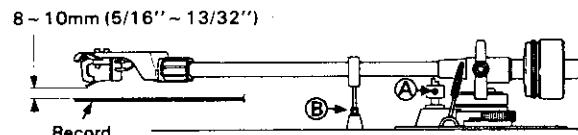

Fig. 14
1. Set the cueing lever to UP (▲). Loosen set screw at **A** in Fig. 14, and adjust elevator height so that the stylus is 8~10 mm (5/16"~13/32") above the record surface. Tighten set screw **A**.